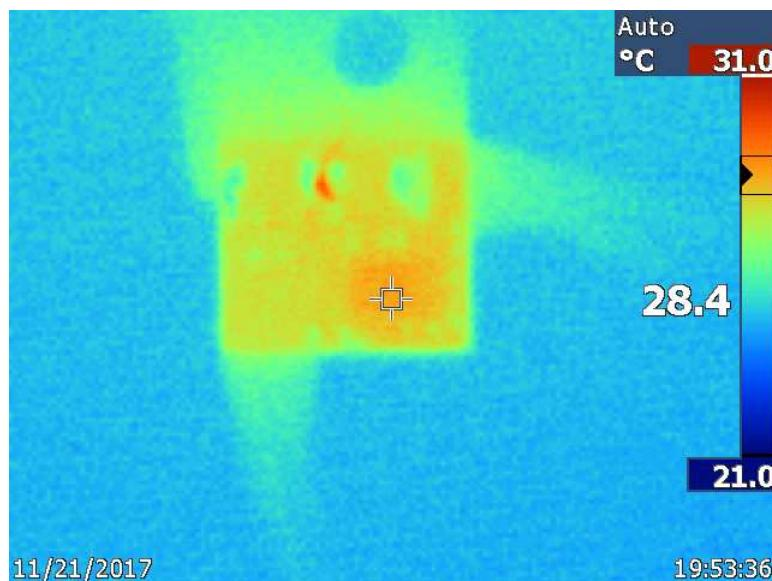

图 15. Thermal Image at 24 V_{IN} , 5 V_{OUT} , $10\text{ mA I}_{\text{OUT}}$
The infrared (IR) thermal image in 图 15 was taken at steady state with 24 V_{IN} and the LMR36006 output at a load of 10 mA (no airflow). The ambient temperature is approximately 22°C . The maximum IC temperature is 28.4°C .